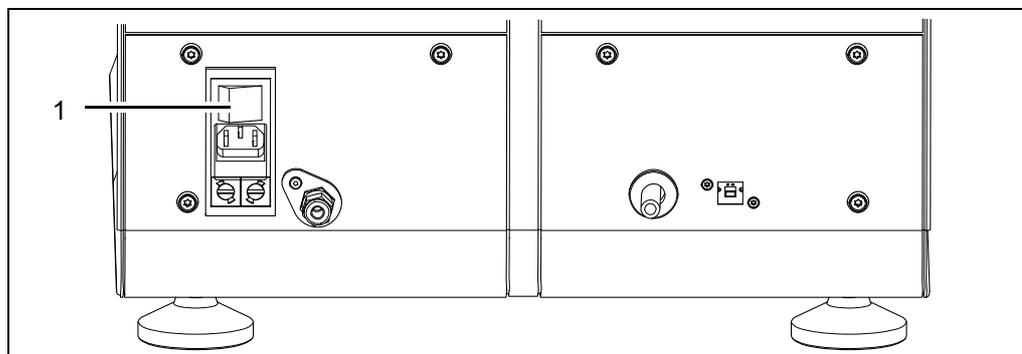

Fig. 6-1 On/off switch
3. Switch on the spectrometer at the on/off switch (1, fig. 6-1).